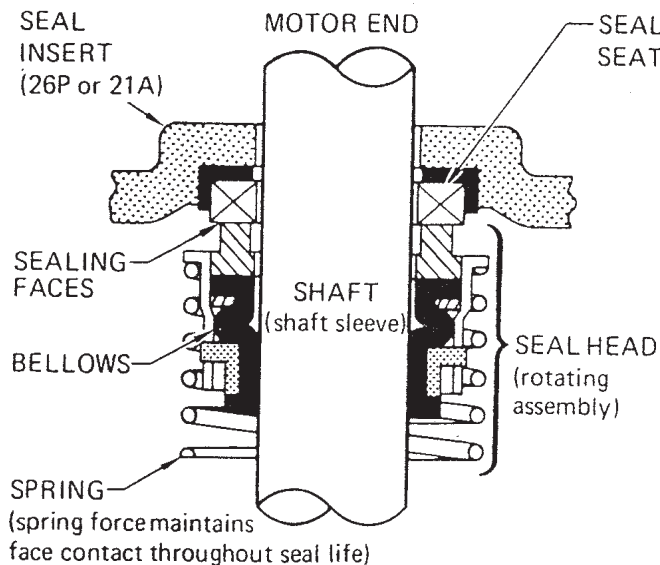

FIGURE 7a - End Face Mechanical Seal
- Figure 7a (below) identifies major seal components, and illustrates how an **end face mechanical seal** functions when properly installed inside pump casing.